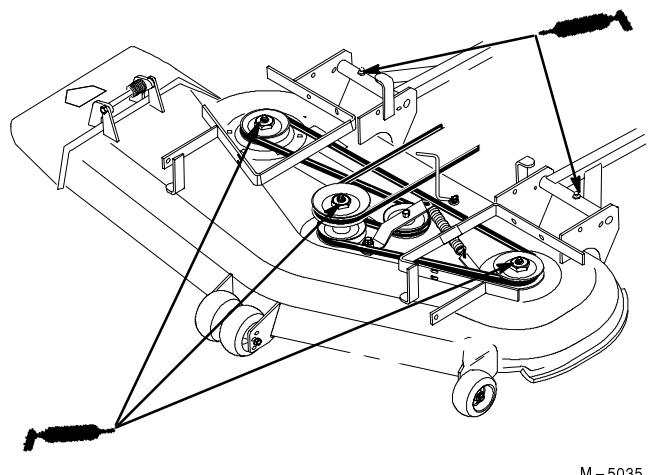

Figure 35
2. Grease the fittings on the three spindle bearings until grease comes out lower seals (Fig. 35).
3. Grease the fittings on the push arms (Fig. 35).